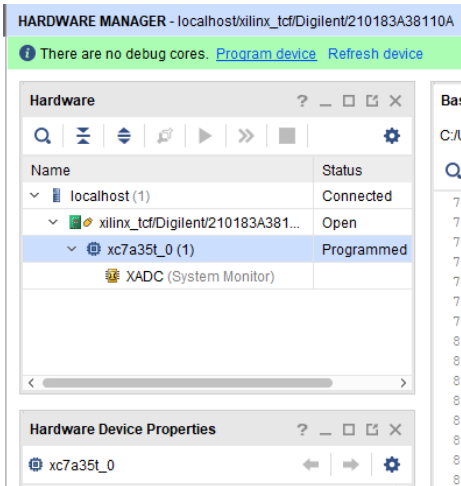

Figure 32 Connected to board - Program
2. After you connect successfully to your device, press “Program Device” from the top green banner as shown in Figure 32.